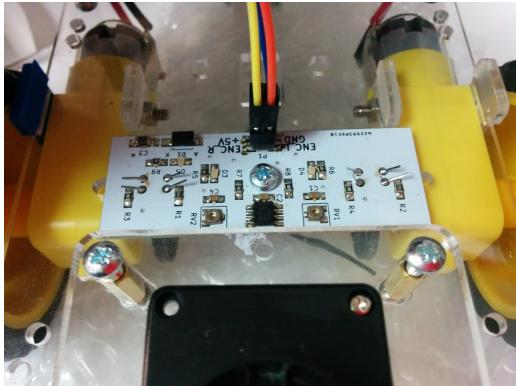

Figure 9: Encoder mounting top view.
- 1) Attach the encoder module to your robot as shown in Figures 9 and 10. Be careful that the encoder wheels are not rubbing on the sensors, there should be a small clearance on either side.